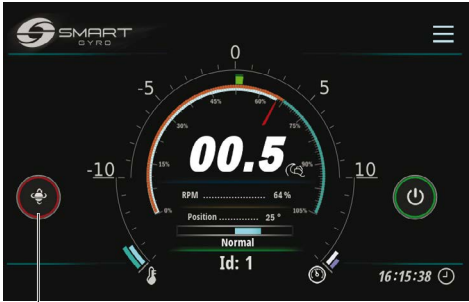

Figure 8
- 8. To stop the precession, press the precession toggle icon. The circle around the icon goes red, indicating that the precession is locked and the sphere cannot rotate (Figure 8, (1)).